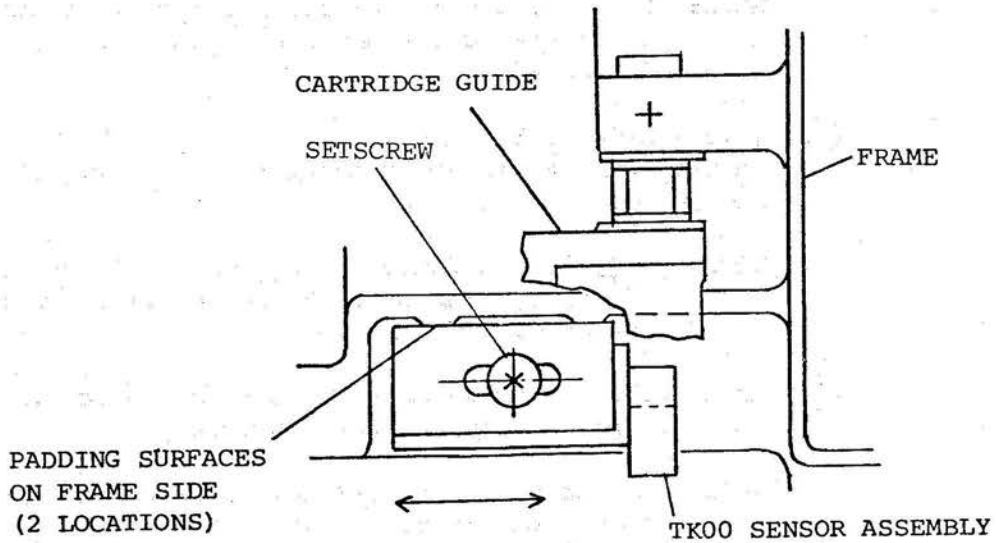

Figure 16
- ③ Move the Track 00 sensor right or left (toward Track 00 or Track 76), adjust to the standard level, and tighten the setscrew (see figure 16).